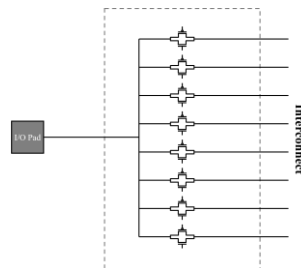

Fig. 4. Input/Output Block
d. Input/Output Block: This Input/Output Blocks (Fig. 4) contains 10 transmission gates that help the input/output pad to form connection with the logic cells.